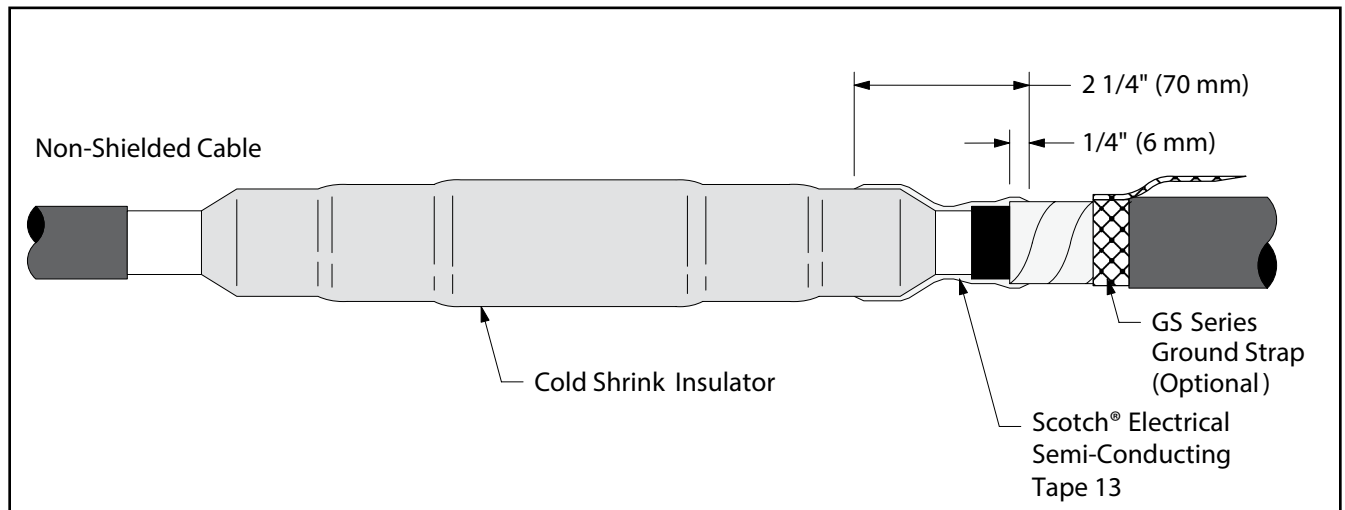

Figure 13
- a. Starting 1/4" (6 mm) cable's metallic shielding (i.e. tape, wire or UniShield®) apply 2 half-lapped layers of Scotch® Electrical Semi-Conductive Tape 13 over the end of the cold shrink insulator for a total wrapped distance of 2 1/4" (70 mm) (Figure 13).